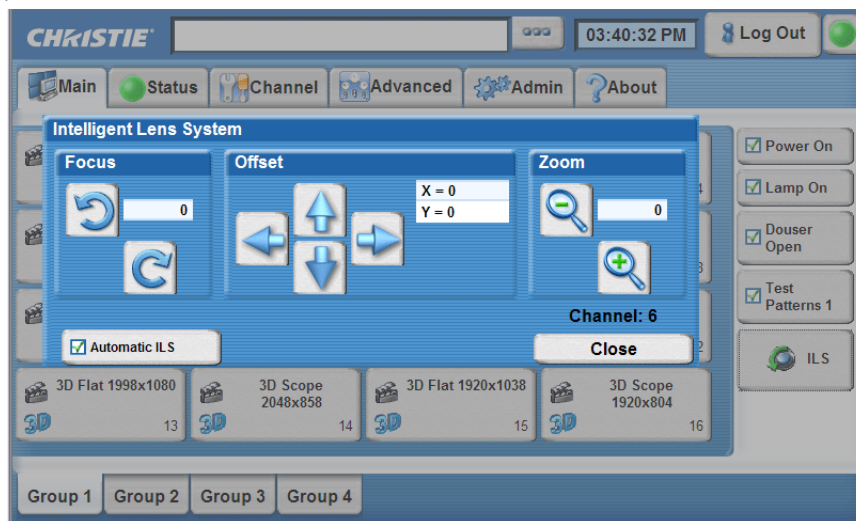

Figure 2-23 Intelligent Lens System
2. Ensure **Automatic ILS** is selected. See **Figure 2-23**. **NOTE:** *Enabling **Automatic ILS** will over-write the pre-defined settings for this channel. To perform a temporary lens adjustment, uncheck **Automatic ILS** and adjust the lens by clicking the necessary buttons or manually adjusting the focus, offset, and/or zoom knobs. All temporary adjustments will be lost when **Automatic ILS** is selected again or if the channel changes.*
3. Using the framing test pattern, adjust the **Offset** by clicking the up/down/left/right buttons on the ILS menu (**Figure 2-23**) as necessary to display a square image on the screen. **NOTES:** **1)** *You can also hold the buttons down for continuous movement. A pending status message appears on screen until the changes have been applied.* **2)** *For best optical performance, make sure to minimize keystone error by using offset more than aiming to center the image in off axis installations.* **3)** *Avoid extreme tilts or offsets. Corner vignettes on a white test pattern indicates extreme offset that should be avoided using mechanical alignment.*